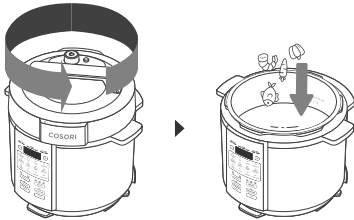

Figure 6.1
1. Twist the lid counterclockwise and lift to remove. **Do not** use the pressure cooker lid when using the **SAUTE** cooking function. [Figure 6.1]